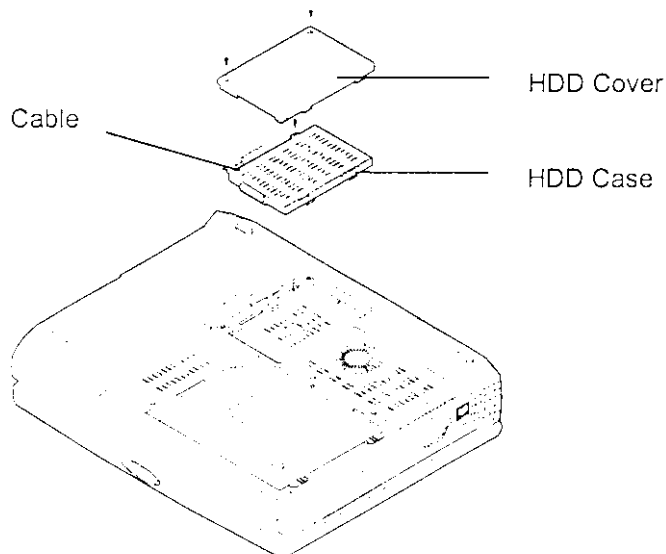

Figure 2-9
3. Remove the HDD cover (Figure 2-9).
4. Disconnect the cable (Figure 2-9).
5. Detach the HDD case from the Notebook (Figure 2-9).